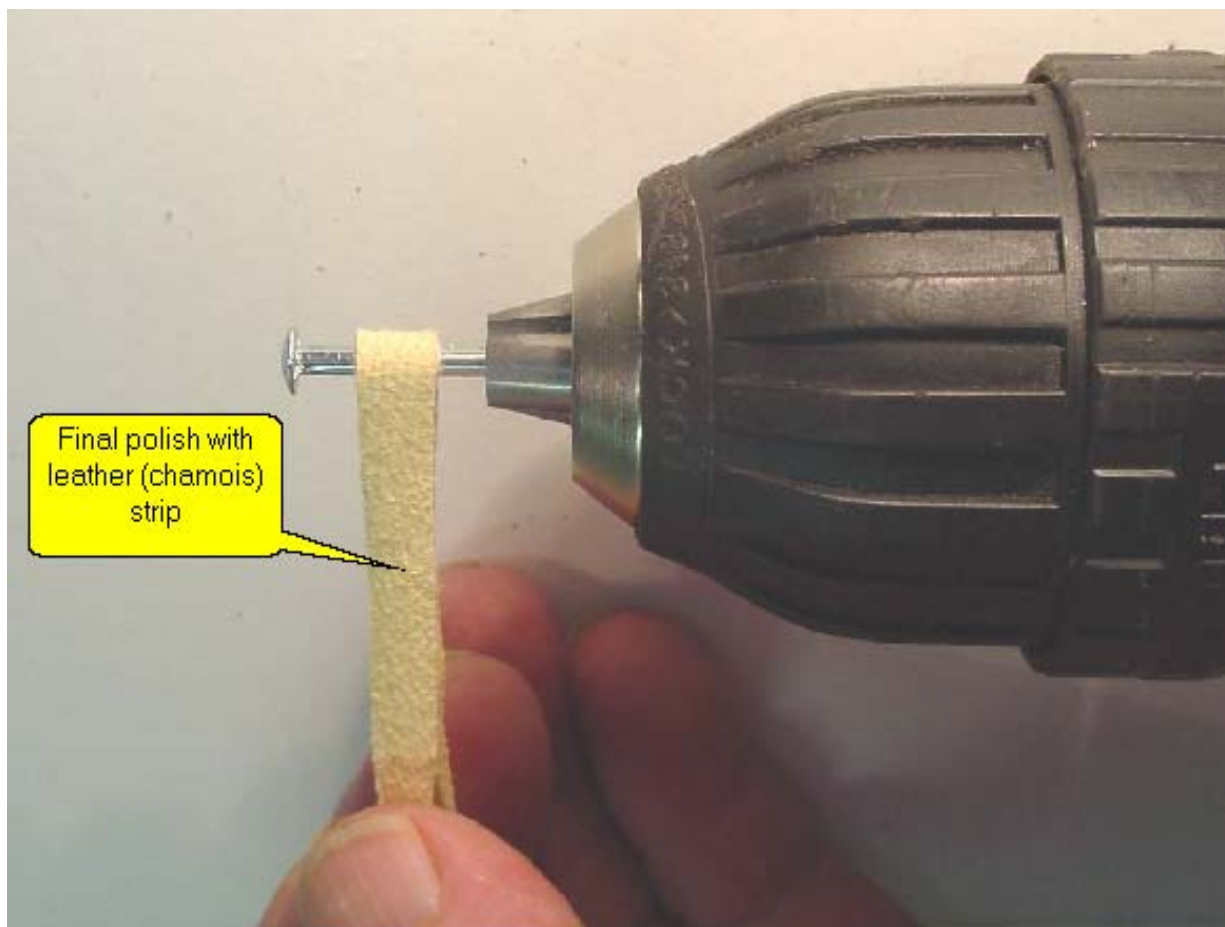

Figure 9 - Honing the axle surface with the chamois strip from the Grab Bag..
- The chamois strip, shown in **Fig. 9**, is item 8 in the Grab Bag.